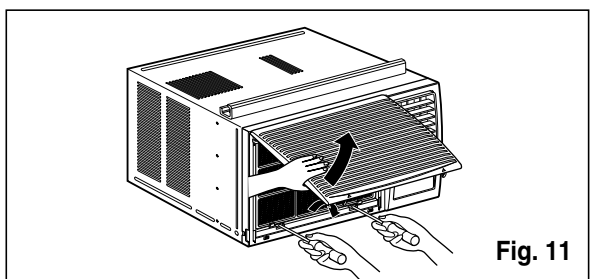

Fig. 11
14. Lift the inlet grille and secure it with two type A screws through the front grille. (See Fig. 11)